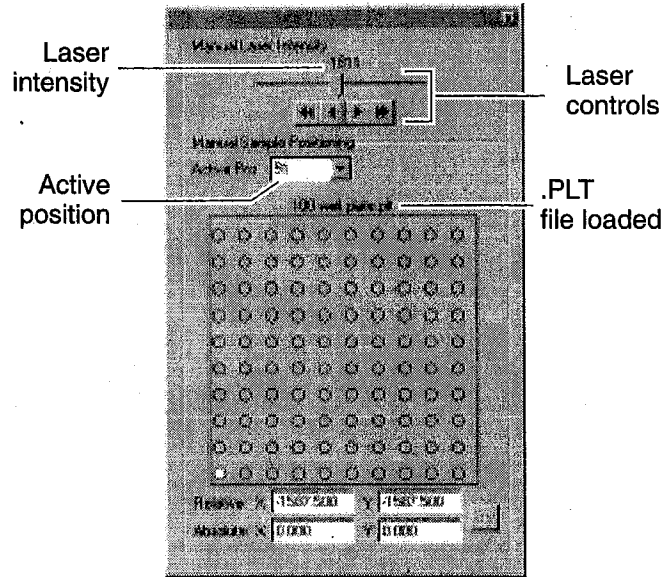

Figure 4-5 Manual Laser/Sample Positioning Control Page (Plate View) with a 100 Well Plate.PLT File Loaded
The Manual Laser/Sample Positioning control page is displayed (Figure 4-5) and reflects the .PLT file you selected when you loaded the sample plate.
To adjust laser intensity, click-drag the slider control or fine and coarse buttons on the Manual Laser/Sample Positioning control page (see Figure 4-5 on page 4-7). For more information, see *the Voyager Biospectrometry Workstation User's Guide*, Section 4.5.2, Adjusting Laser Intensity and Selecting Sample Position.
1. Adjust laser intensity between 1,100 and 1,200 using the slider control on the Manual Laser Intensity/Sample Positioning Control page (see Figure 4-5 on page 4-7).